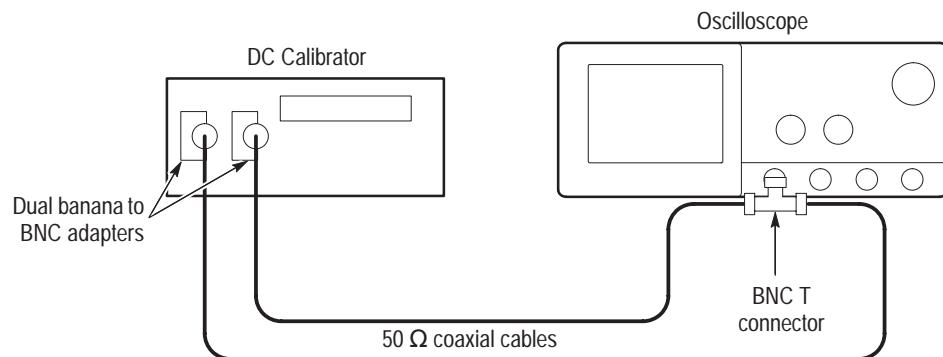

Figure 4–23: Subsequent test hookup
- Connect the output of a DC calibration generator through a dual-banana connector followed by a 50Ω precision coaxial cable to one side of a BNC T connector. See Figure 4–23.
- Connect the Sense output of the generator through a second dual-banana connector followed by a 50Ω precision coaxial cable to the other side of the BNC T connector. Now connect the BNC T connector to **CH 1**. See Figure 4–23.
- f. Press **CLEAR MENU** to remove the menus from the display. See Figure 4–24.